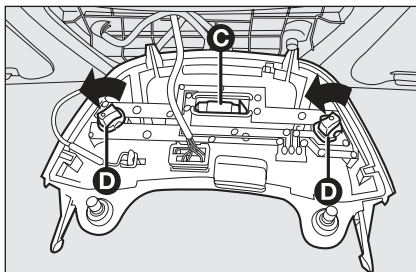

fig. 35
- replace the central bulb **C**-fig. 35 releasing it from the side contacts making sure that the new bulb is correctly clamped between the contacts; replace side bulbs **D**-fig. 35 turning both bulb holders counter-clockwise then, remove the snap-fitted bulbs.